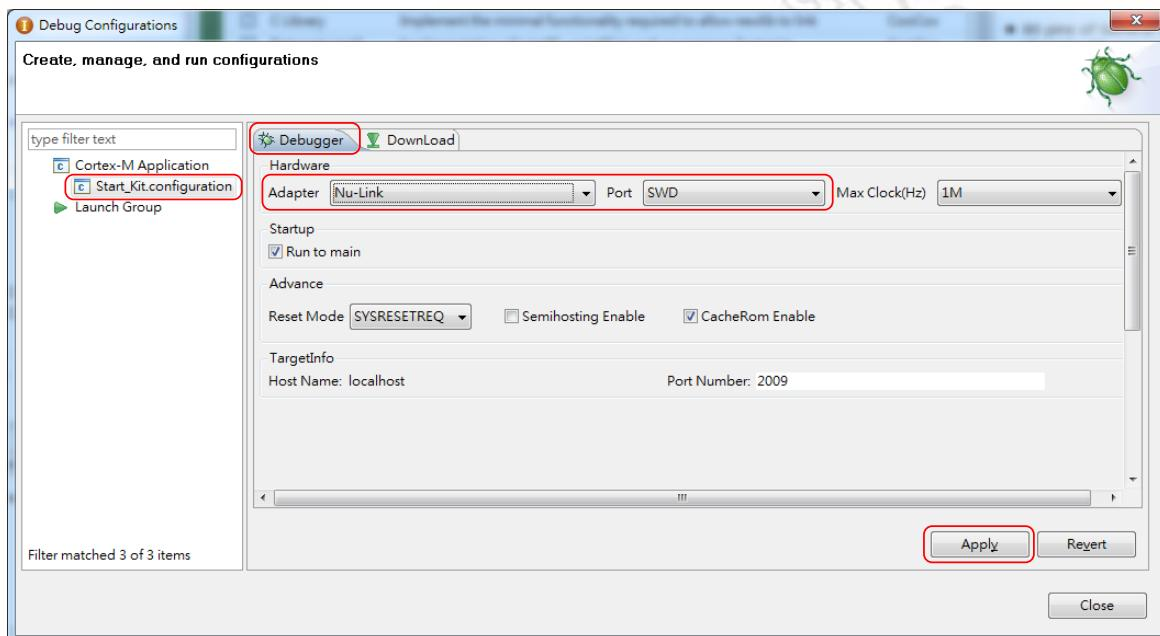

Figure 4-20 Specify the Debugger Options for CooCox CoIDE
- Step 3: In the **Debugger** tab of the *Debug Configurations* form (through invoking **Debug → Debug Configurations**), select “Nu-Link” as the Adapter, select “SWD” as the Port, and click **Apply** to save the settings, as shown in Figure 4-20.